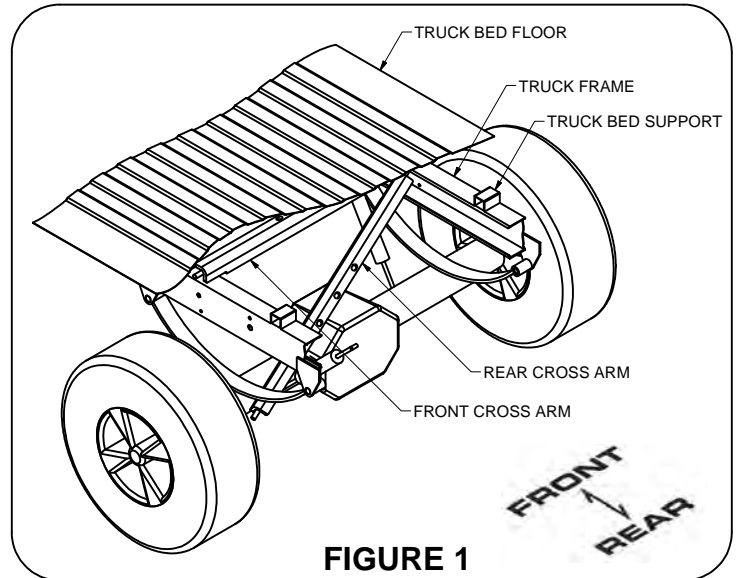
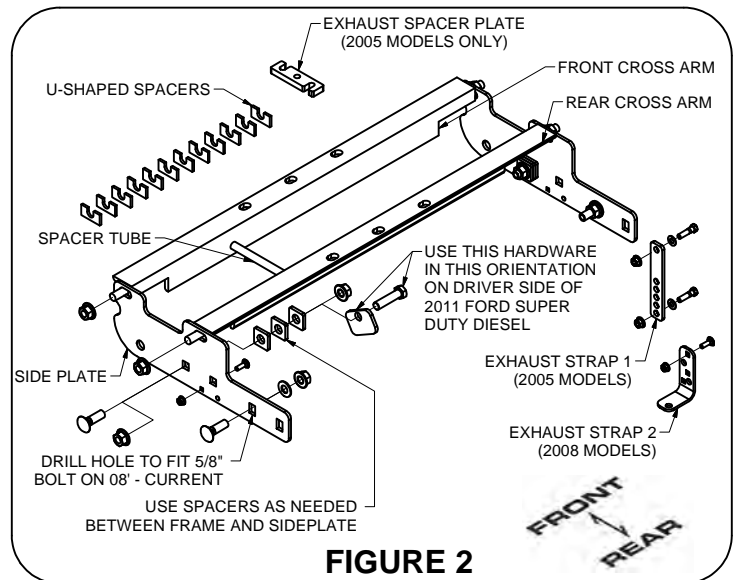

FIGURE 1
FIGURE 2
3. On 2005 models loosen the (2) bolts on the exhaust hanger mount in front of the rear axle between the exhaust hanger and the truck bed. Lower the exhaust approximately 1/2", insert the 1/2" spacer plate provided and retighten bolts.
5. Install cross arms by sliding them into the gap between the truck bed and frame on passenger side. Swing other end between the truck bed and frame gap on driver side as shown in **Figure 1**. (**Note: Make sure cross arms are placed in the correct orientation as shown in Figure 2.**)
6. Hang the side plates from the 5/8" studs extending from the cross arms. Secure each plate with (2) 5/8" flange nuts provided. Finger tight only.
7. Align side plates with the 3/4" slot in the frame. Place the 5/8" carriage bolts through side plate, 1/4" spacers (use spacers as needed to fill the gap between the frame and sideplate), and frame as shown in **Figure 2**. Use a 5/8" flange nut to secure, finger tight only. At this time, place another 5/8" carriage bolt through the other hole in the frame and side plate or drill the hole to fit the 08' - current model trucks. Secure with a 5/8" flange nut and washer as shown. (**Note: Hardware orientation is different on driver side of 2011 Ford Super Duty equipped with a diesel engine. See Figure 2.**)